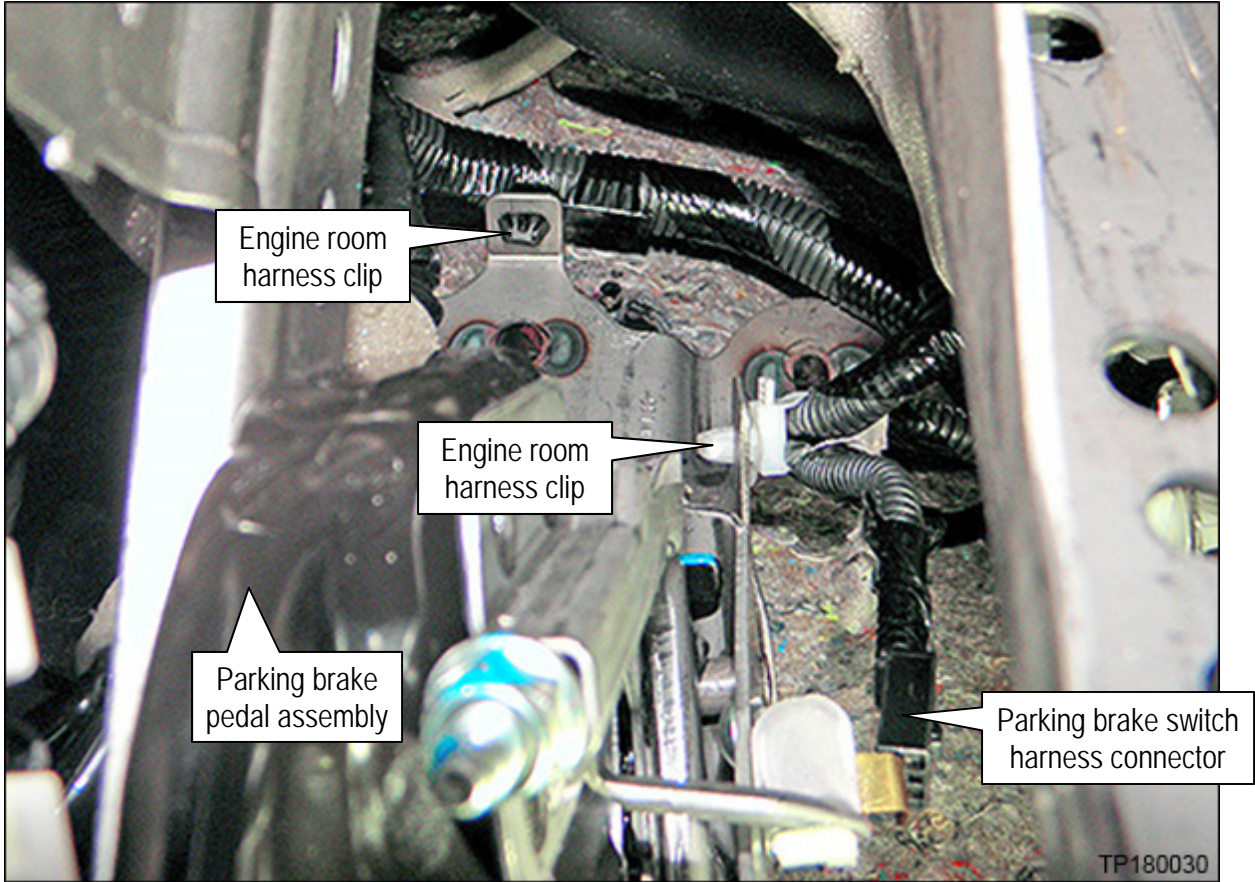

Figure 4
- Unclip the engine room harness from the parking brake pedal assembly in the two locations shown in Figure 4 and unplug the parking brake switch harness connector.